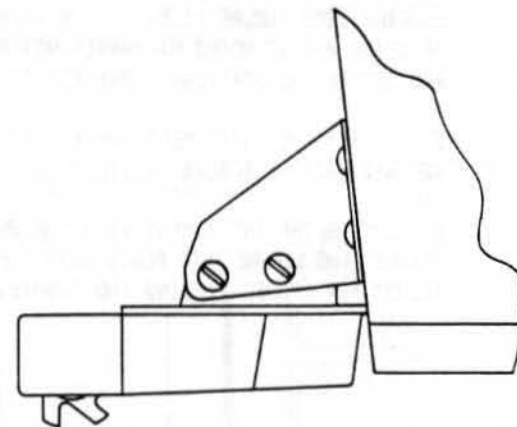

FIGURE 3
4. USING TAPPING SCREWS PROVIDED, TIGHTEN BRACKET TO THE TRANSOM SO THAT THE BOTTOM OF THE TRANSDUCER IS FLUSH WITH THE UNDERSIDE OF THE BOAT (SEE FIG 3). SECURE TRANSDUCER TIGHTLY TO BRACKET.